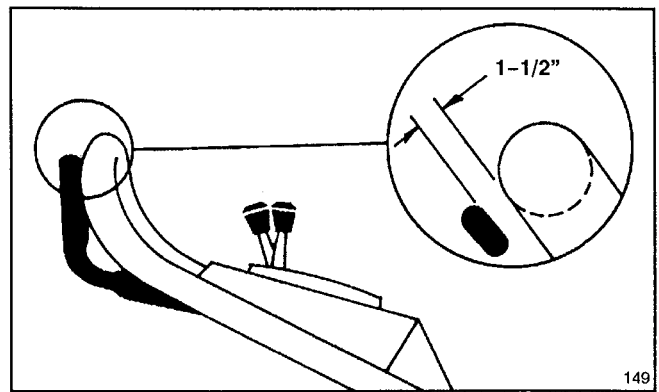

Figure 23
3. **CHECK ADJUSTMENT** – Adjustment is correct when control bar is about 1-1/2 inches from handle (Fig. 23) and wheels start to turn freely.